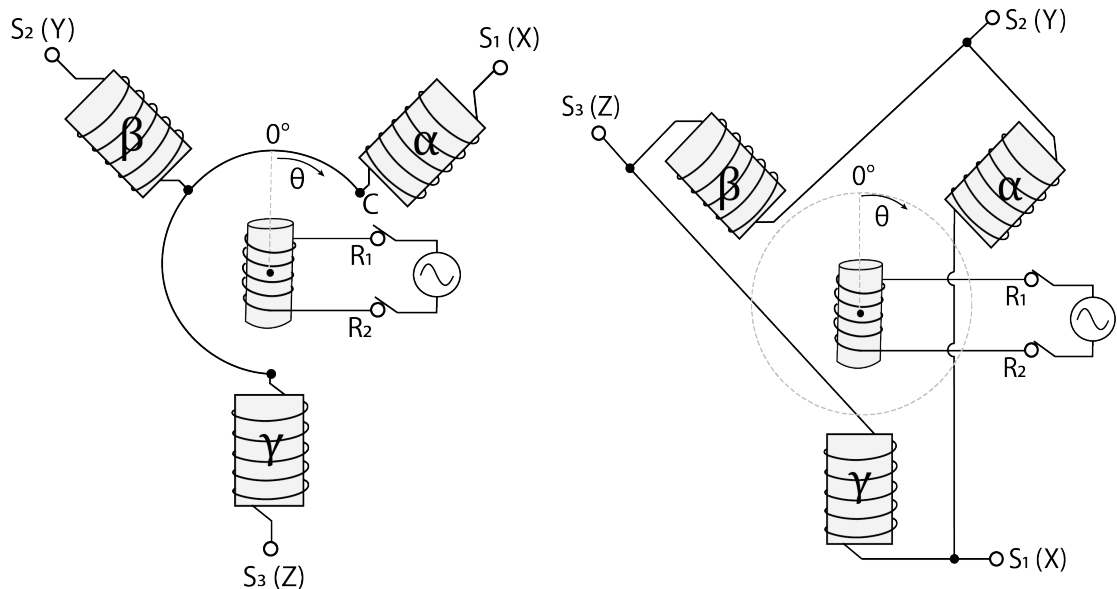

Figure 2-1 Internal Structure of Star Synchro (left) vs. Delta Synchro (right)
A synchro consists of a single-phase rotor surrounded by a 3-phase stator. The three stator coils are spatially arranged 120° apart but may be wired in either a star or delta configuration, as illustrated in **Figure 2-1**.
- θ is the rotor angle measured clockwise from the reference position shown in **Figure 2-1**.
NOTE: If the device uses a different reference shaft position from what's shown in **Figure 2-1**, θ will be offset by a constant.